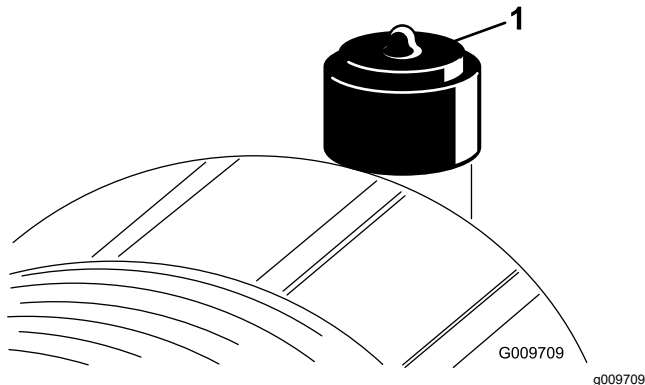

Figure 72
Service the air-cleaner filter only when the service indicator (Figure 72) requires it. Changing the air filter before it is necessary only increases the chance of dirt entering the engine when the filter is removed.
8. Reset the indicator (Figure 72) if it shows red.